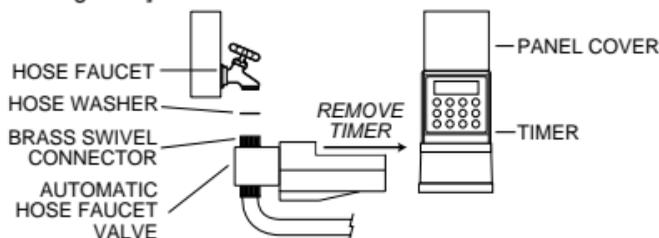

Figure 3
5. Remove the timer by sliding it away from the valve. Attach the automatic valve to a hose faucet tightly to avoid leaking. Make sure a hose washer is inserted in the brass swivel connector. [See Figure 3]